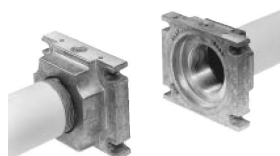

Fig. 7
- 3 Remove MultiBloc between the threaded flanges (Fig. 7)